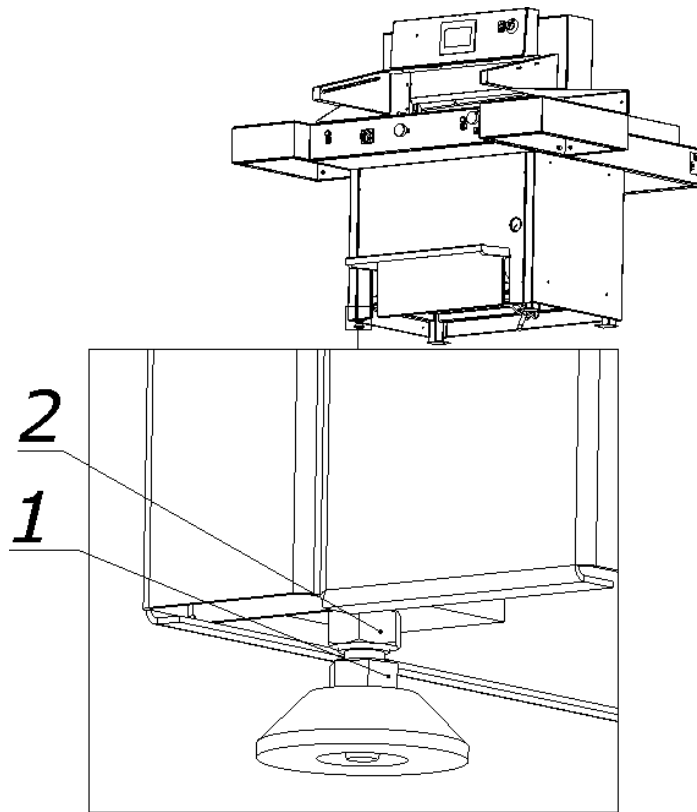

Figure 7. Adjusting the cutter leveling foot.
The cutter does not need to be attached to the ground. The correct and safe setting of the machine is achieved by turning the leveling foot (1), and locking its position with the nut (2), as shown in Figure 7.